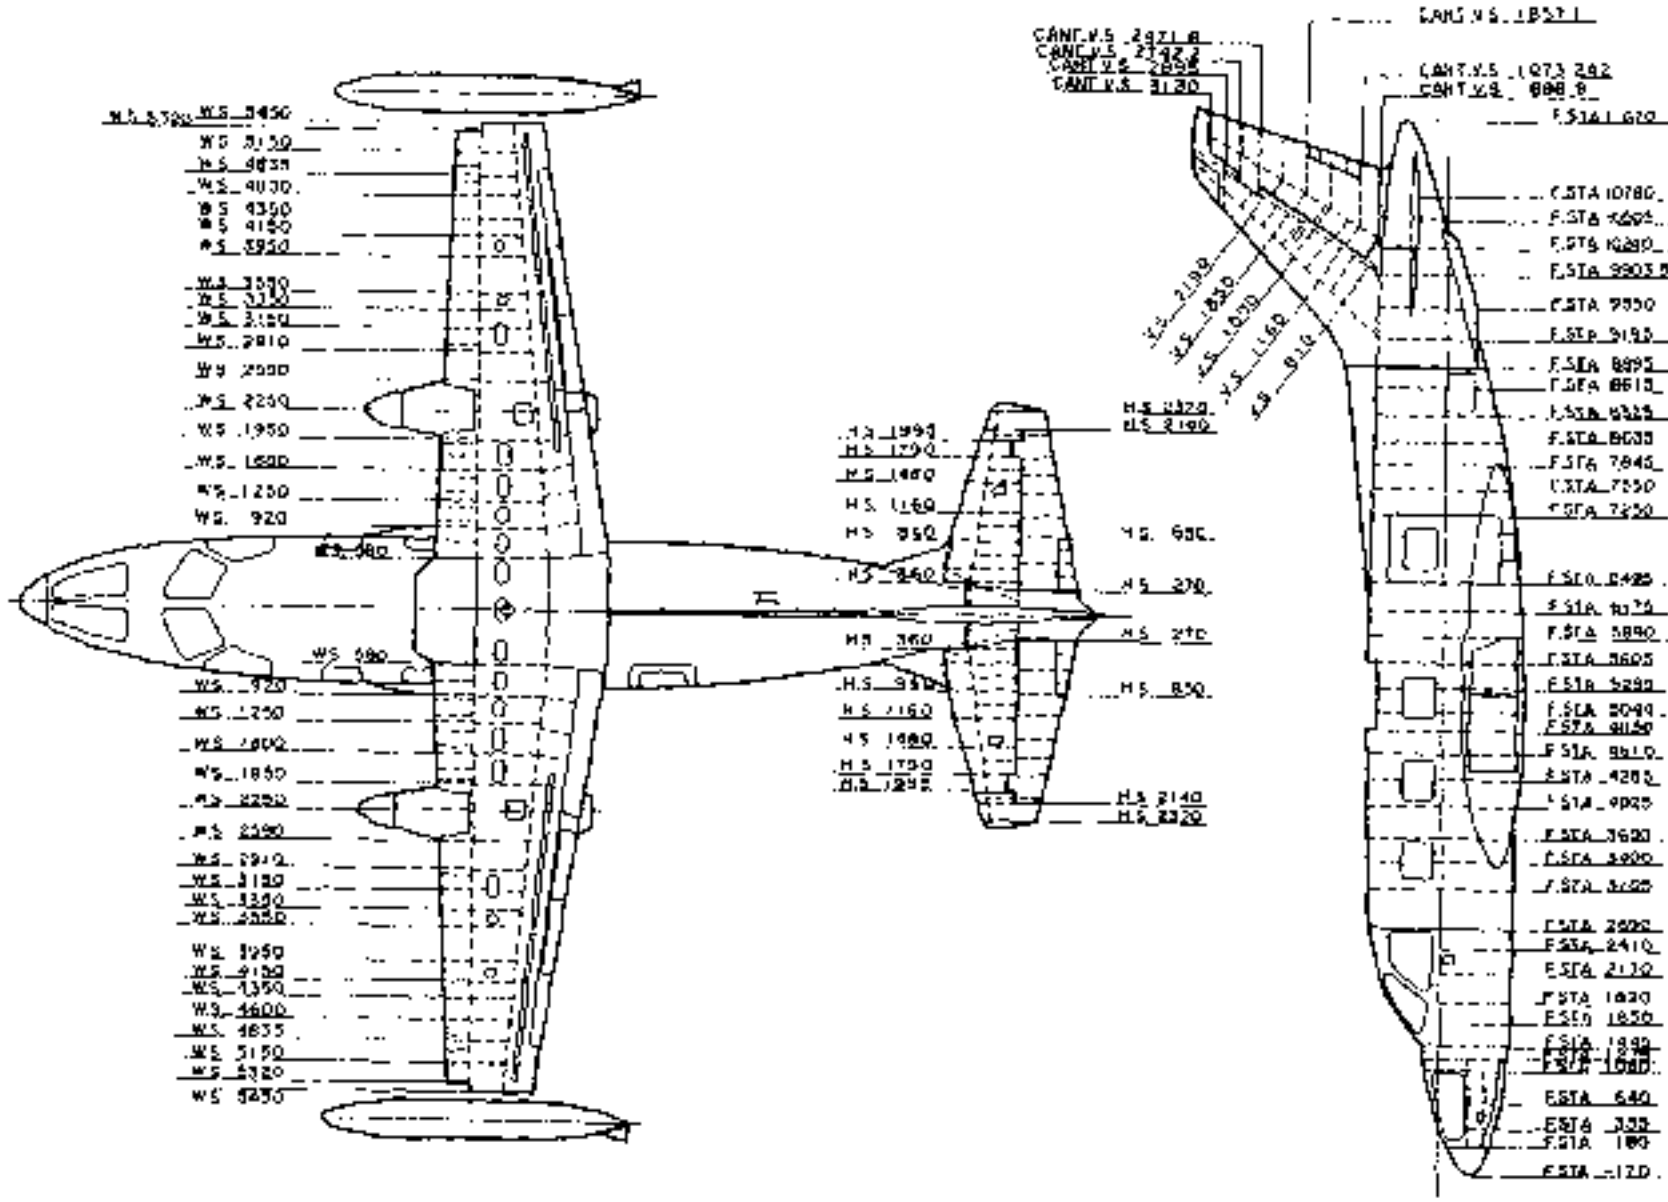

Figure 1-2 Station diagram
2. STATION DIAGRAM (See Fig. 1-2)